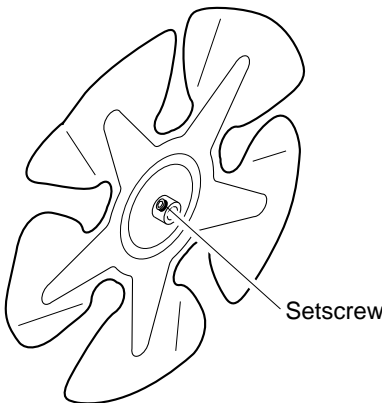

Figure 10 - Setscrew Location
3. Use hex wrench to loosen set screw which holds fan to motor shaft (see Figure 10). Remove fan. Be careful not to damage the fan blade pitch.